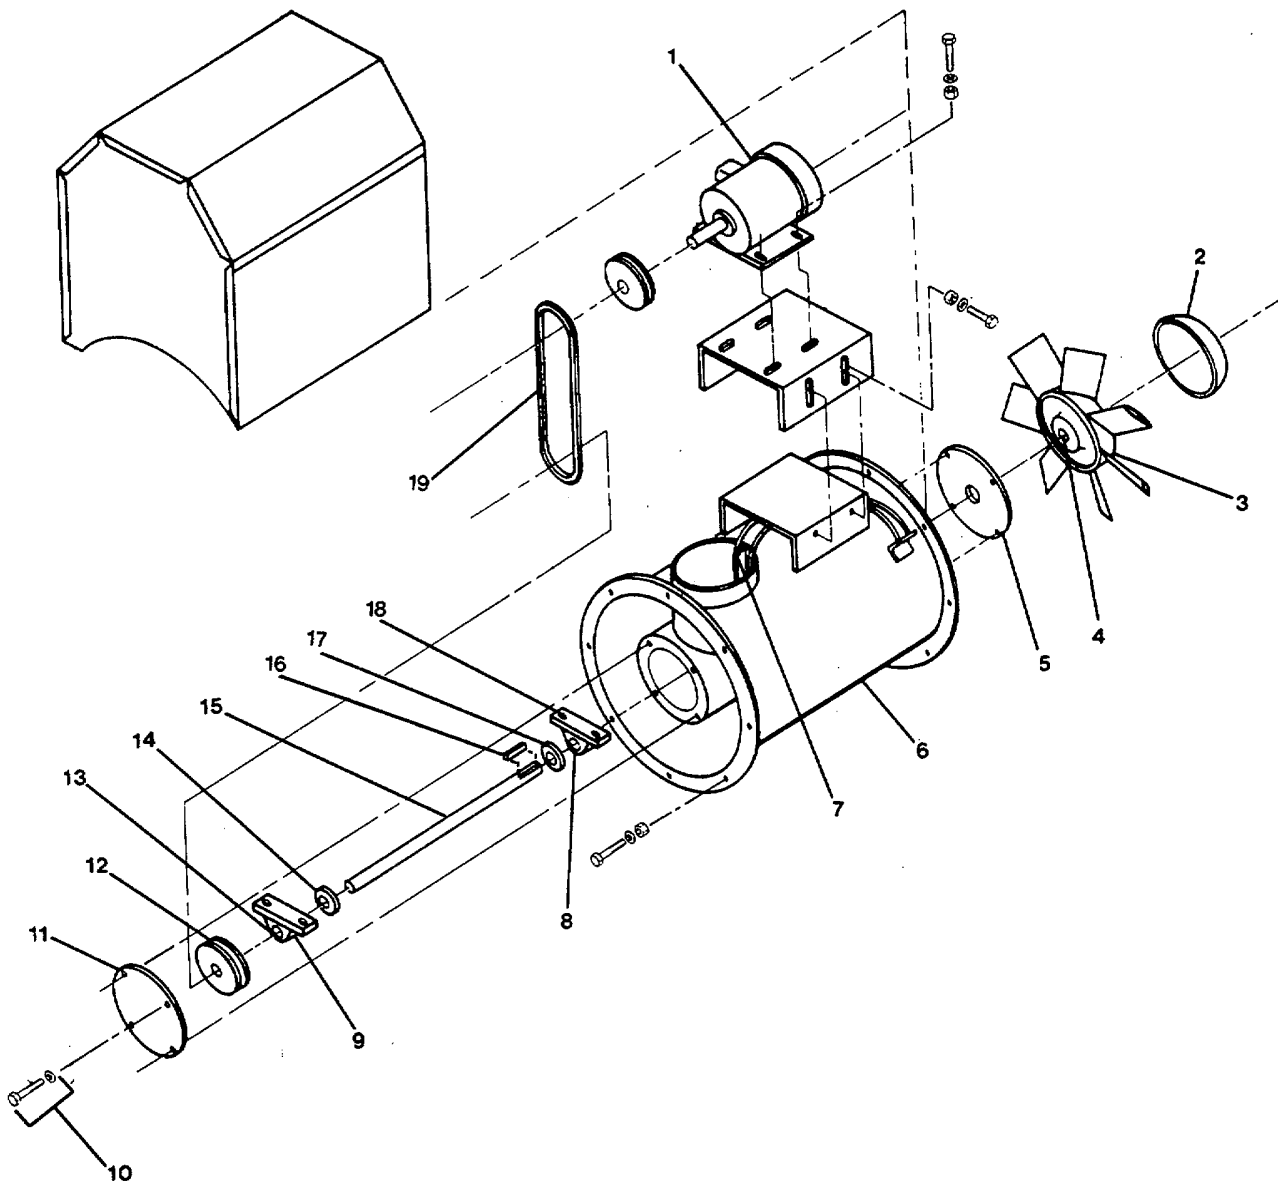

Figure 3-10. Ventilating Fan (Supply Fan #4).
- a. Position motor (1) on fan unit and install mounting bolts (19).
- c. Connect electrical wiring in motor jack box (20).
- (1) Turn electrical power ON.
- (2) Start and run fan motor to check operation.
- (3) Remove "Out of Service" tag from circuit.
**3-19. Repair Fan, Ventilating (Supply Fan #4). (FIGURE 3-10)**